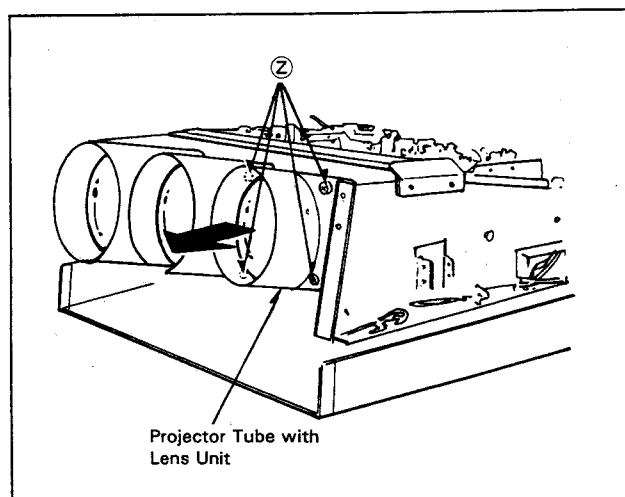

Fig. 19
- 5) Remove 4 screws ② as shown in Fig. 19.
Carefully slide the projection tube with lens unit in the direction of arrow as shown in Fig. 19.